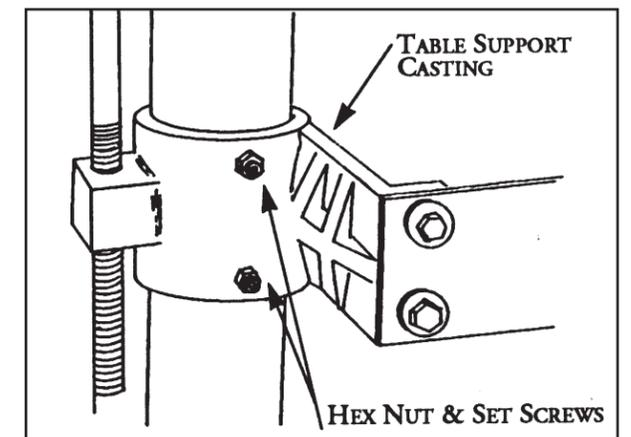

Fig. 3 Table support casting and set screws.
2. Loosen the hex nuts and set screws on the table support castings (Fig. 3) and on the motor support casting (Fig. 5 - #7). The set screws on the table support castings have been tightened at the factory to eliminate free-play between the castings and the column tube during shipment. There are two table support castings on the SuperBrush, one each for the right and left column tubes, and one motor support casting, all with set screws.